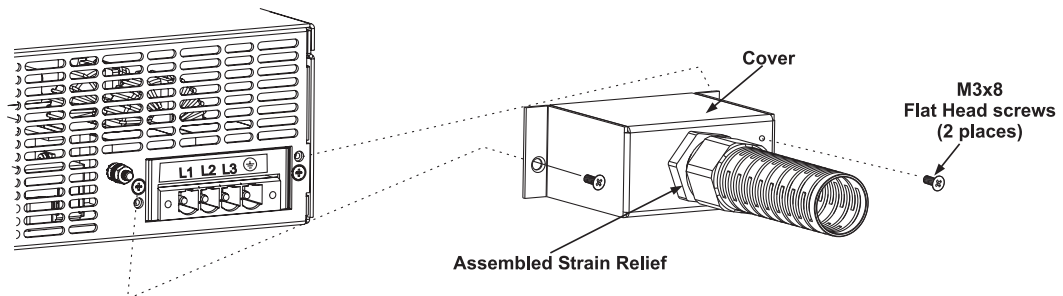

Fig.3-4: AC input cover and strain relief
6. Route the wires inside the cover to prevent pinching. Fasten the cover to the unit using the M3x8 Flat Head screws are provided. Refer to Fig.3-4 for details.